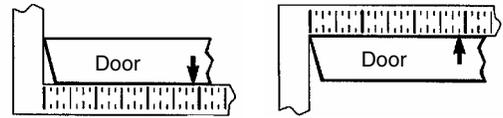

Figure 2
2. After marking door inside face for device location (Device Instructions), transfer "Vertical Reference Centerline" from inside to outside door face. (Figure 2)